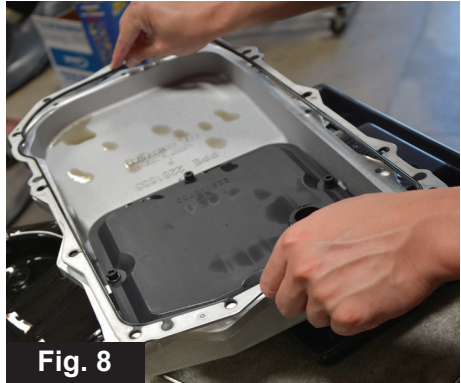

Fig. 8
9. Thoroughly clean the factory transmission pan gasket. Transfer gasket to the PPE pan by engaging the alignment rubber pins with the alignment holes in the flange of the pan. **(Fig 8)**